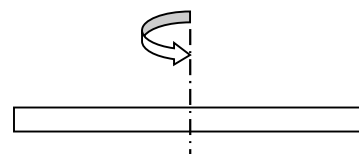

Figure Q.9
9. The rotational inertia of a uniform and homogenous thin rod, of mass m and length L , rotating about an axis perpendicular to the length of the rod (**Figure Q.9**) that passes through its centre of gravity is: